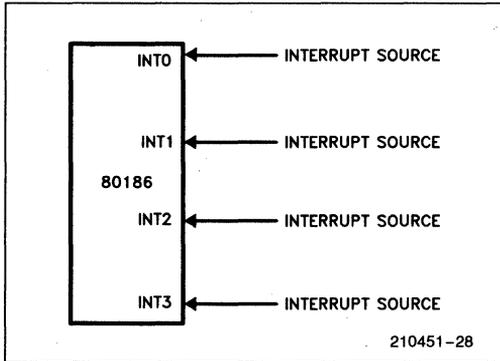

Figure 22. Fully Nested (Direct) Mode Interrupt Controller Connections
When in the fully nested mode four pins are used as direct interrupt requests as in Figure 22. The vectors for these four inputs are generated internally. An in-service bit is provided for every interrupt source. If a lower-priority device requests an interrupt while the in service bit (IS) is set, no interrupt will be generated by the interrupt controller. In addition, if another interrupt request occurs from the same interrupt source while the in-service bit is set, no interrupt will be generated by the interrupt controller. This allows interrupt service routines to operate with interrupts enabled, yet be suspended only by interrupts of higher priority than the in-service interrupt.